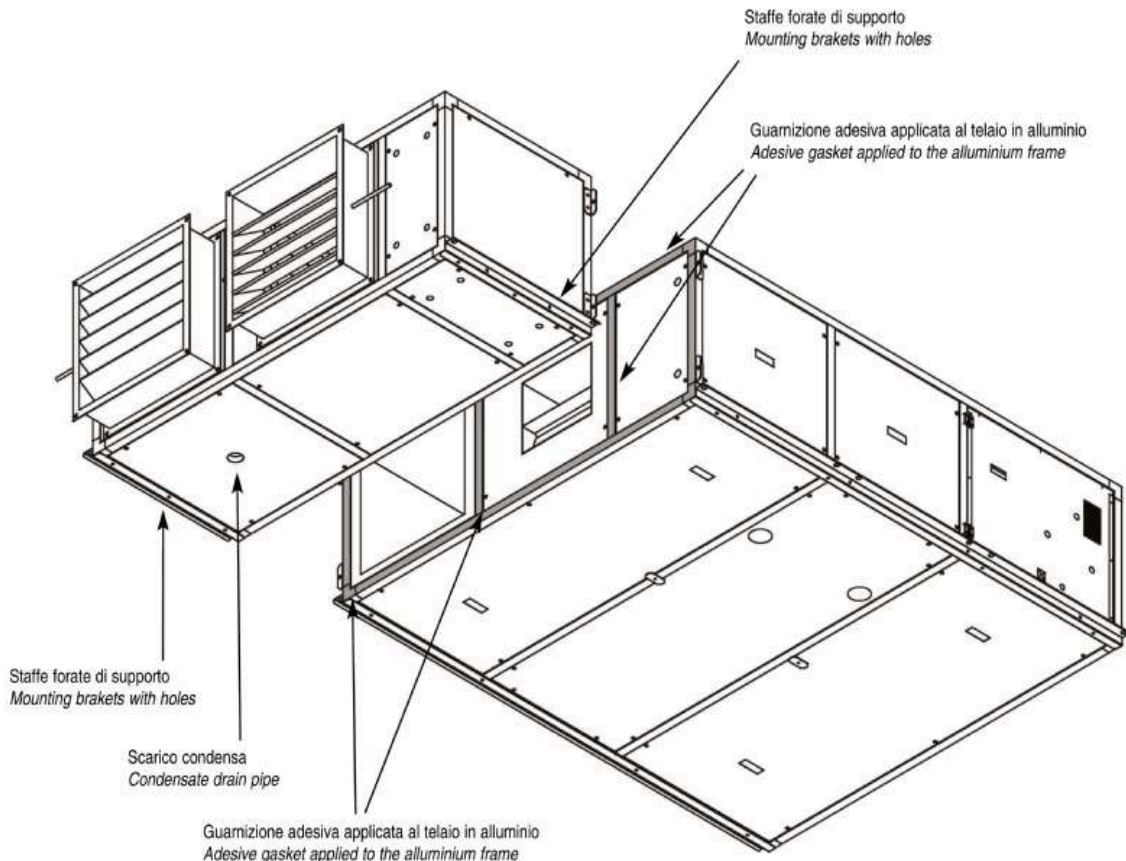

fig. 4
- *Install the main unit before; then apply the adhesive sealing gasket around the aluminium frame perimeter, look at the grey line in the following picture (see fig.4).*